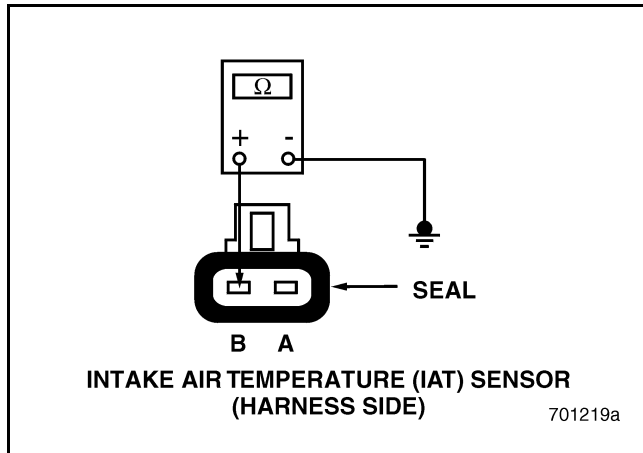

Figure 207
4. Check for continuity between pin B of the IAT Sensor harness connector and a good ground (see Figure 207).